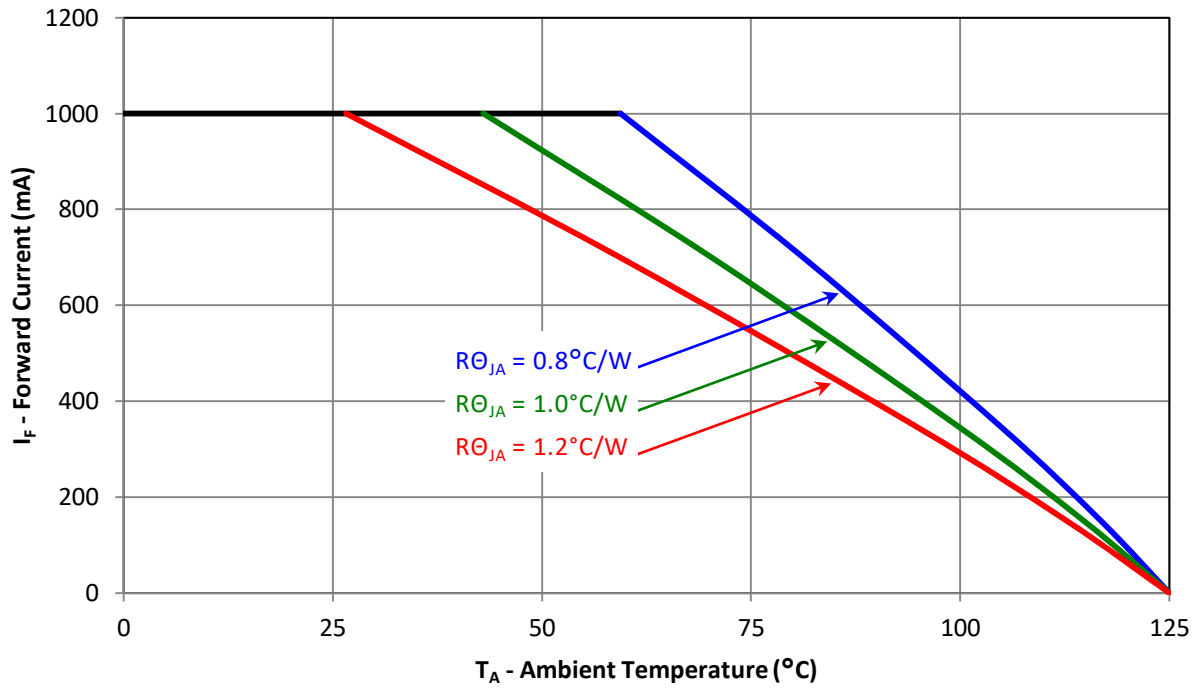

Figure 11: Maximum forward current vs. ambient temperature based on $T_{J(MAX)} = 125^{\circ}\text{C}$
- Maximum DC forward current is determined by the overall thermal resistance and ambient temperature. Follow the curves in Figure 11 for current derating.
Notes for Figure 11: